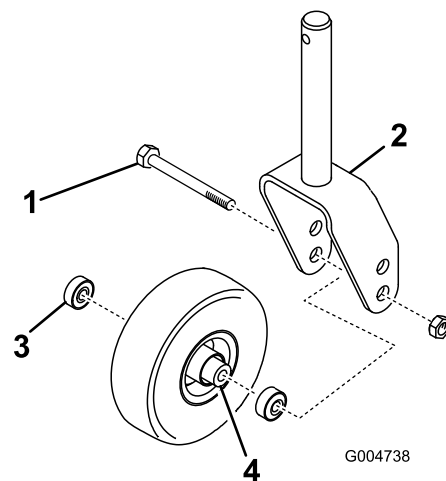
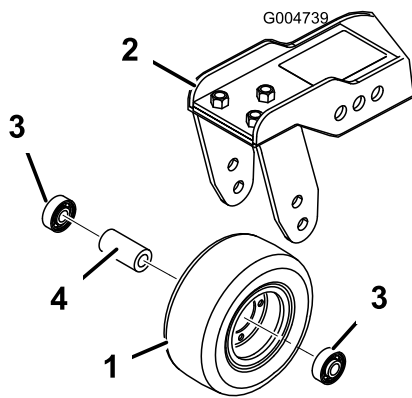

Figure 80
Figure 81
1. Remove the locknut from the bolt holding the castor wheel assembly between the castor fork (Figure 80) or the castor pivot arm (Figure 81). Grasp the castor wheel and slide the bolt out of the fork or pivot arm.
- Remove the bearing from the wheel hub and allow the bearing spacer to fall out (Figure 80 and Figure 81). Remove the bearing from the opposite side of the wheel hub.